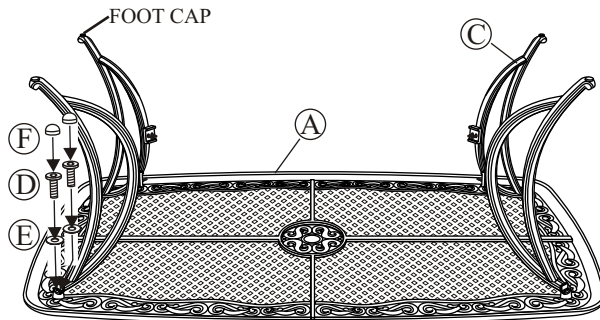

Fig.1
Step 2: Place the table top upside down on a flat, non-abrasive surface. Attach a table leg to the table top by using the bolts and washers as shown in Fig.1. Guide bolts through holes in the table legs and into the pre-drilled holes in the table top. **Hand tighten 2-3 turns only.** Repeat for the other three legs.